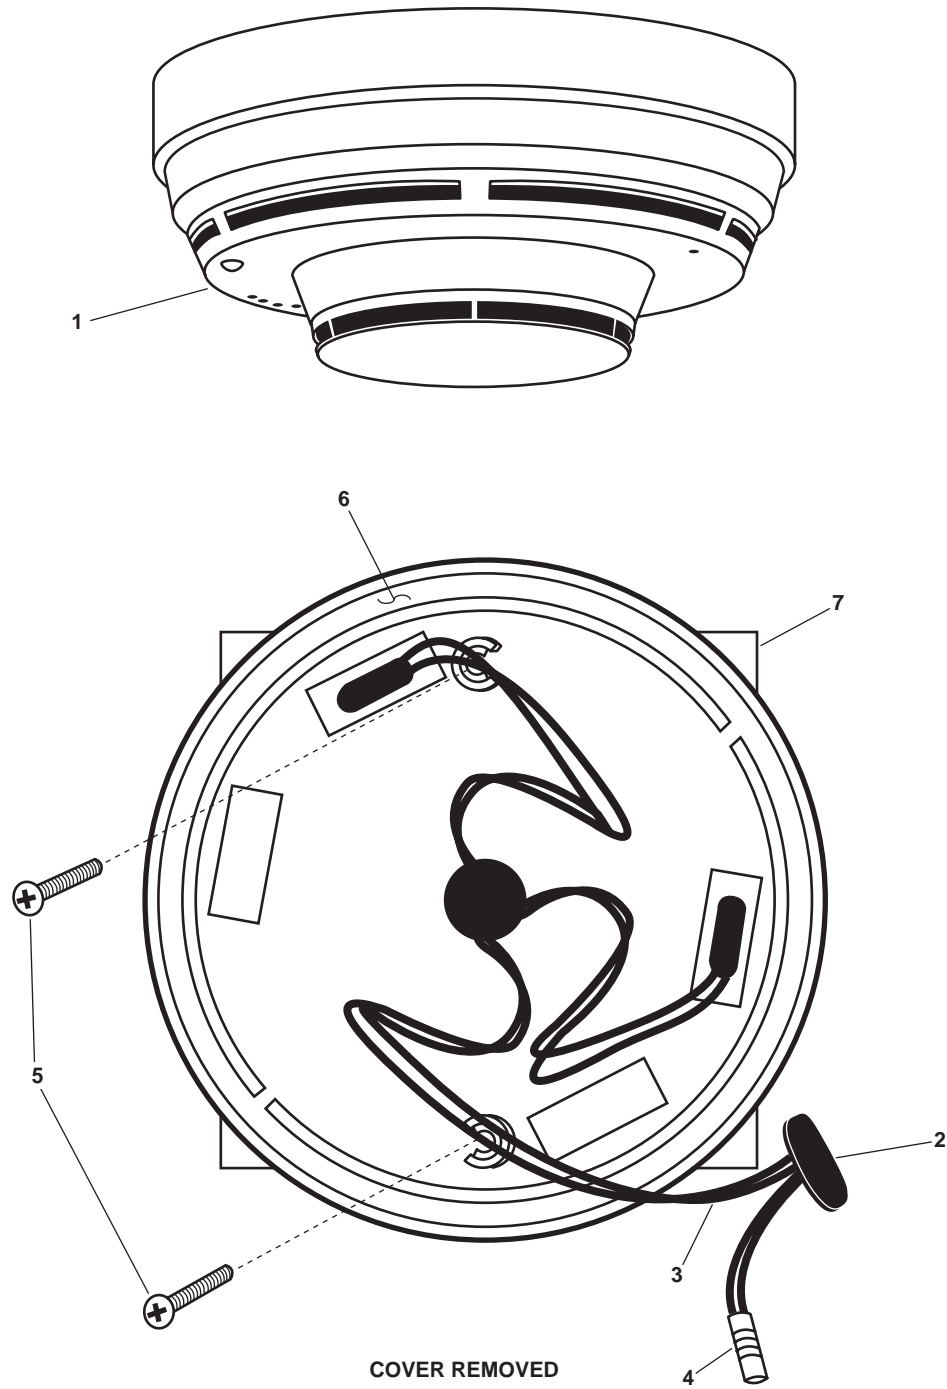

Figure 1. Ionization Smoke Detector
1. Turn the ionization smoke detector cover (figure 1, item 1) slightly counterclockwise and remove.
2. Take voltage readings with a multimeter at the terminals (figure 1, item 2) to ensure that the electrical circuits are deenergized. If voltage is present, ensure that the proper circuit breakers are OFF, locked out, and tagged out (FM 55-502). If no voltage is present, continue with the procedure.
3. Label and disconnect the electrical wiring (figure 1, item 3) from the terminals (figure 1, item 2). If an end of line device (capacitor) (figure 1, item 4) is connected to the terminals, remove the capacitor and set it aside for later installation.
4. Remove the two screws (figure 1, item 5) that secure the ionization smoke detector back plate (figure 1, item 6) to the junction box (figure 1, item 7).
5. Remove the ionization smoke detector back plate (figure 1, item 6).
1. Attach the new ionization smoke detector back plate (figure 1, item 6) to the junction box (figure 1, item 7) with the two screws (figure 1, item 5).
2. Connect the electrical wiring (figure 1, item 3) to the terminals (figure 1, item 2) using the labels from step 3 of Removal as a guide. If an end of line device (capacitor) (figure 1, item 4) was removed during Removal, connect the capacitor to the terminals. Remove the labels.
3. Install the ionization smoke detector cover (figure 1, item 1).